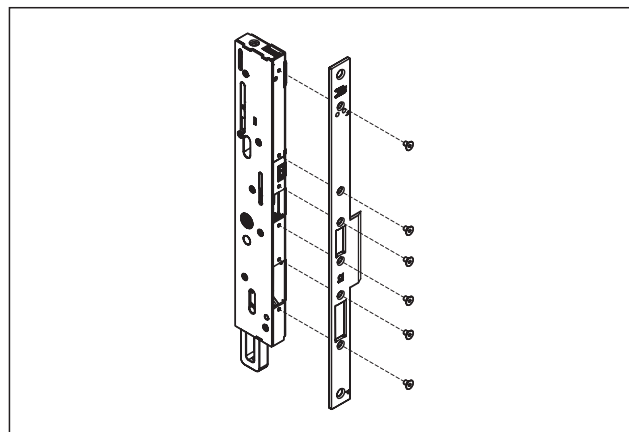

Fig. 31 Screw on forend
2. If necessary, screw the forend to the lock with 1.5 Nm (Abb. 31).